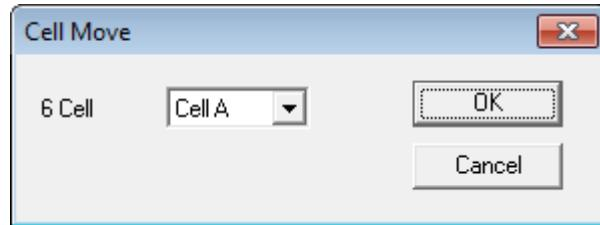

Fig. 6-48
- (1) Click the  (Move Cell) button on the Instrument toolbar. The **Cell Move** dialog box will appear as shown in Fig. 6-48.